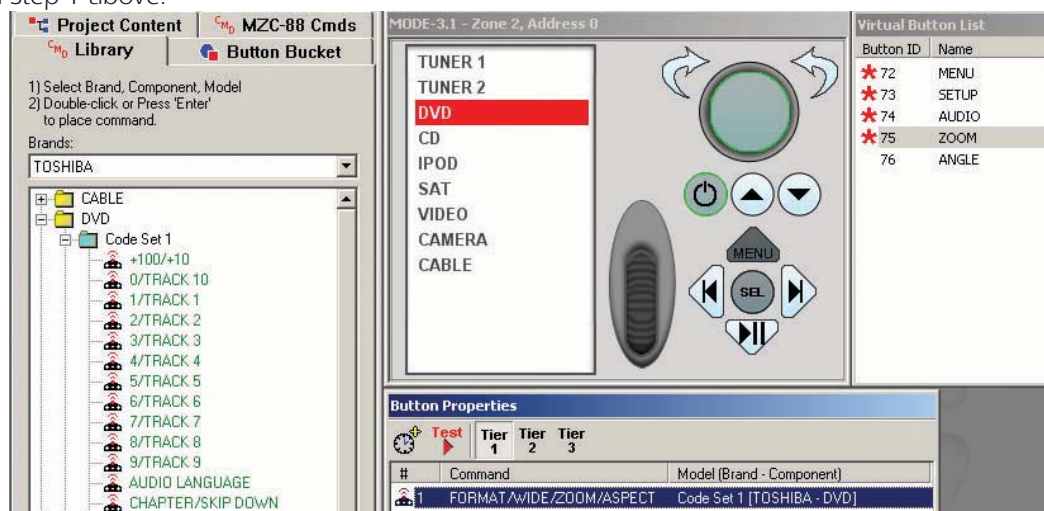

Figure 30
12. Left click the Virtual Button to be programmed. Double left click the IR or RS232 command in the CMD Library. A **red asterisk** will appear next to the function in the **Virtual Button List** to indicate an associated command or macro. The command will appear in the **Button Properties Window**. (Refer to **Figure 30**) Repeat for all Virtual Buttons.